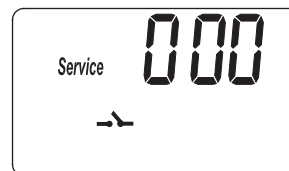
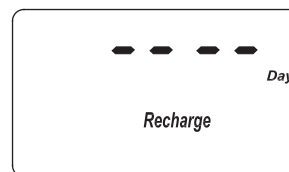
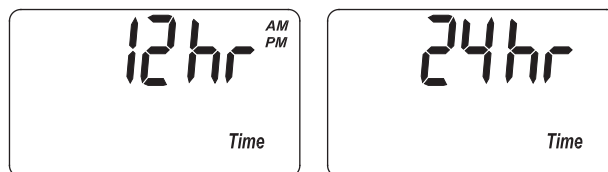

FIG. 29
FIG. 30
FIG. 31
1. Press and hold the PROGRAM button until the screen in Figure 29 is displayed. Once in this display, press the PROGRAM button four times and the display in Figure 30 is shown.
1. Press and hold the PROGRAM button until the screen in Figure 29 is displayed. Once in this display, press the PROGRAM button five times and one of the two displays in Figure 31 is shown.